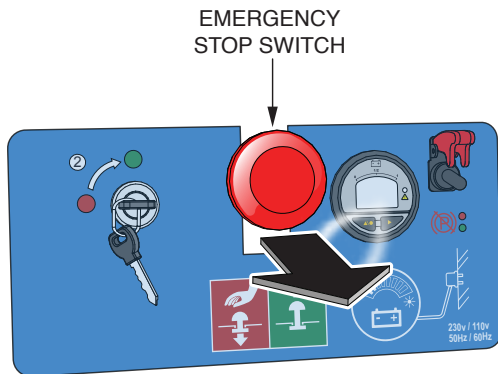

Figure 5. Emergency Stop Switch (Closed)
1. Located on the control panel of the Mini Dumper, is the **emergency stop** button (Figure 5). Pull this button outward to start the electric motor.